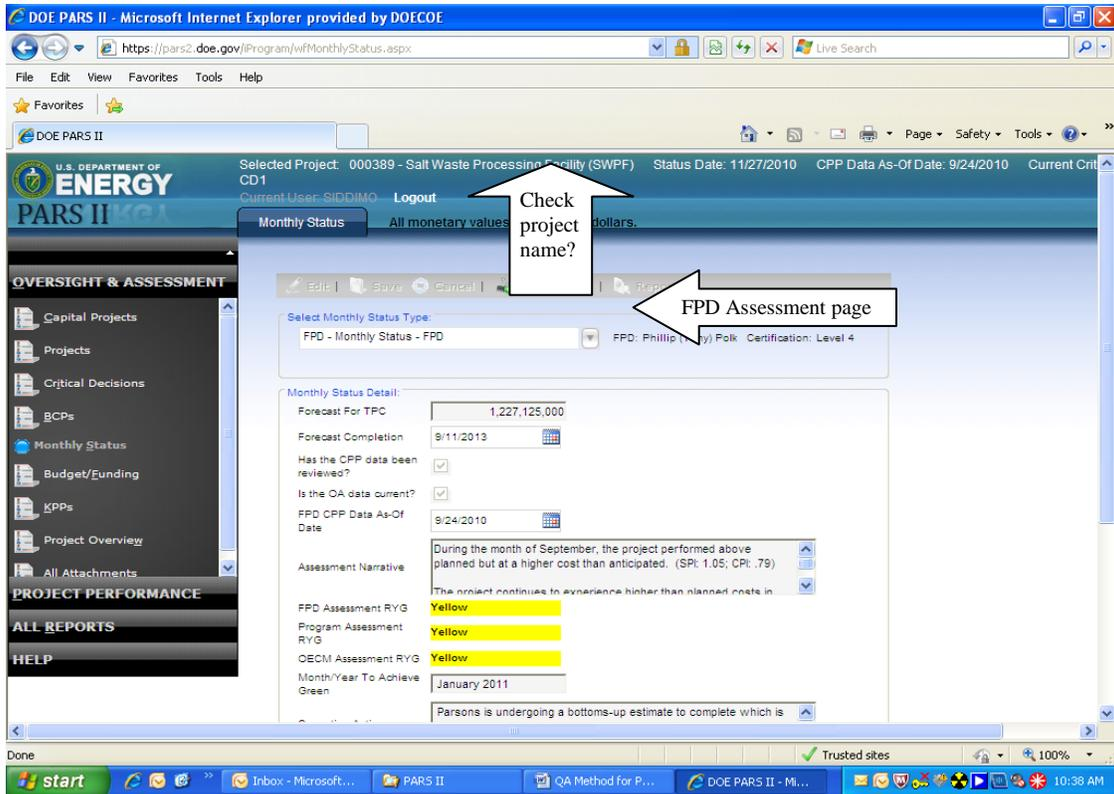

Figure 1
- Confirm that the correct project is displayed on the screen. Confirm the name of the project at the top of the screen. Please note that on this screen in PARS II (see Figure 1) DOE Project number is not displayed.
- The default display is for FPD assessment page (Figure 1)
4. Forecast for TPC must match the EAC with FPD PARS II EAC input. Note that EAC may be equal to Total Project Cost (TPC) but it reflects the estimate of cost at project completion by FPD. Forecast CD4 Completion date should match the date with FPD input into PARS II (see figure 1). Once the data is entered the field “Is the OA Data Current” should be checked.